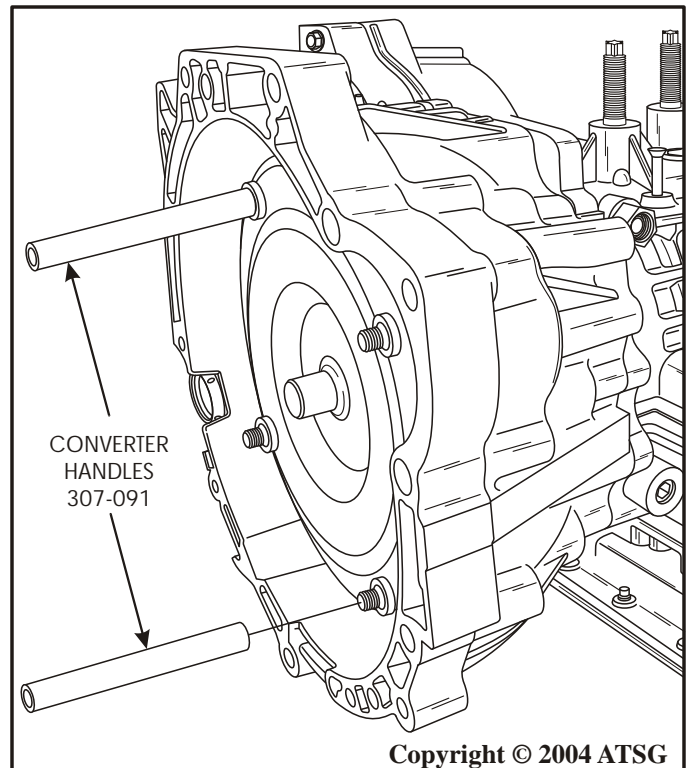

Figure 18
5. Install the converter handles 307-091 onto the converter, as shown in Figure 18, that allows you to rotate the converter as you remove it.